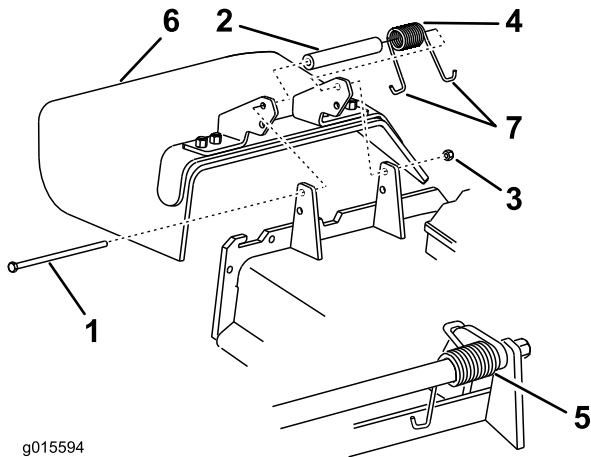

Figure 100
- Remove the locknut, the bolt, the spring, and the spacer holding the deflector to the pivot brackets (Figure 100).
- Remove the damaged or worn grass deflector (Figure 100).
Note: Make sure one J end of the spring is installed behind the deck edge before installing the bolt as shown in Figure 100.
- Place one J hook end of the spring around the grass deflector (Figure 100).